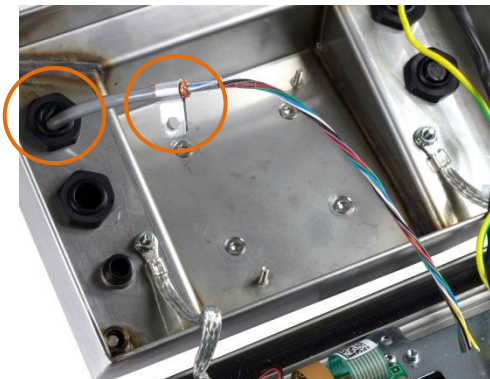

Figure 2-29: Load Cell Cable Entering IND236 Enclosure, with Chassis Ground Clip
1. The load cell cable is routed into the enclosure through the cable gland indicated in Figure 2-29.